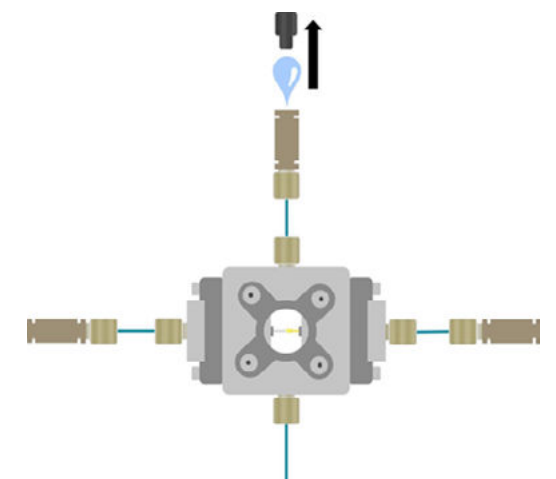

Figure 31: Purging the Raydrop from Solvent solution
- 9 Purge the RayDrop by opening the purge capillary by applying pressure (Fig 31).